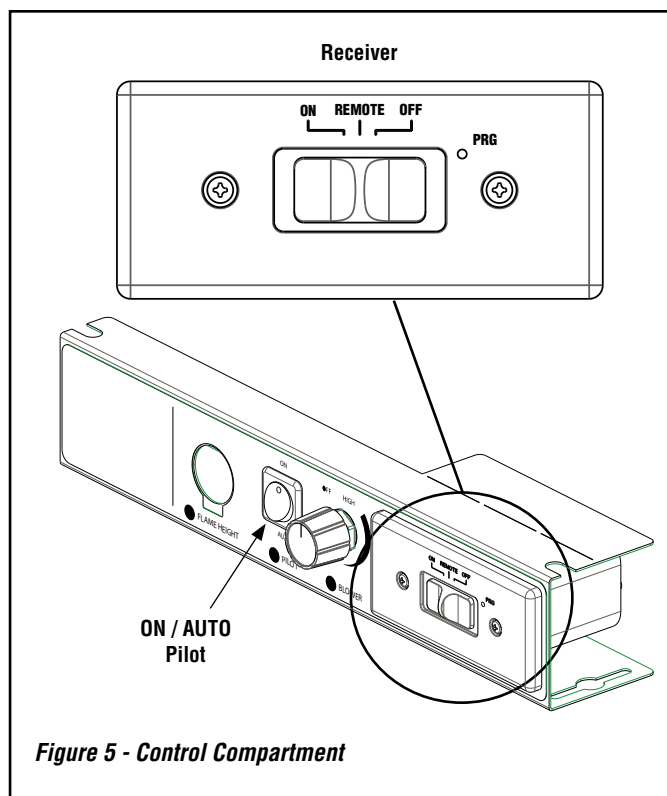

Figure 5 - Control Compartment
Place the 3 position slider switch in the "Remote" position (*see Figure 5*). Using the end of a paper clip, or other similar object, insert the end of the paper clip into the hole marked "PRG" on the Receiver front cover. The Receiver will "beep" three (3) times to indicate that it is ready to synchronize with the Remote (transmitter).
This appliance can be switched from intermittent ignition to a standing pilot simply by toggling the switch located in the lower control compartment (refer to **Figure 5**). To save energy, switch to intermittent mode. To have a standing pilot which will help startup in the winter by warming the flue and the glass, switch to standing pilot.